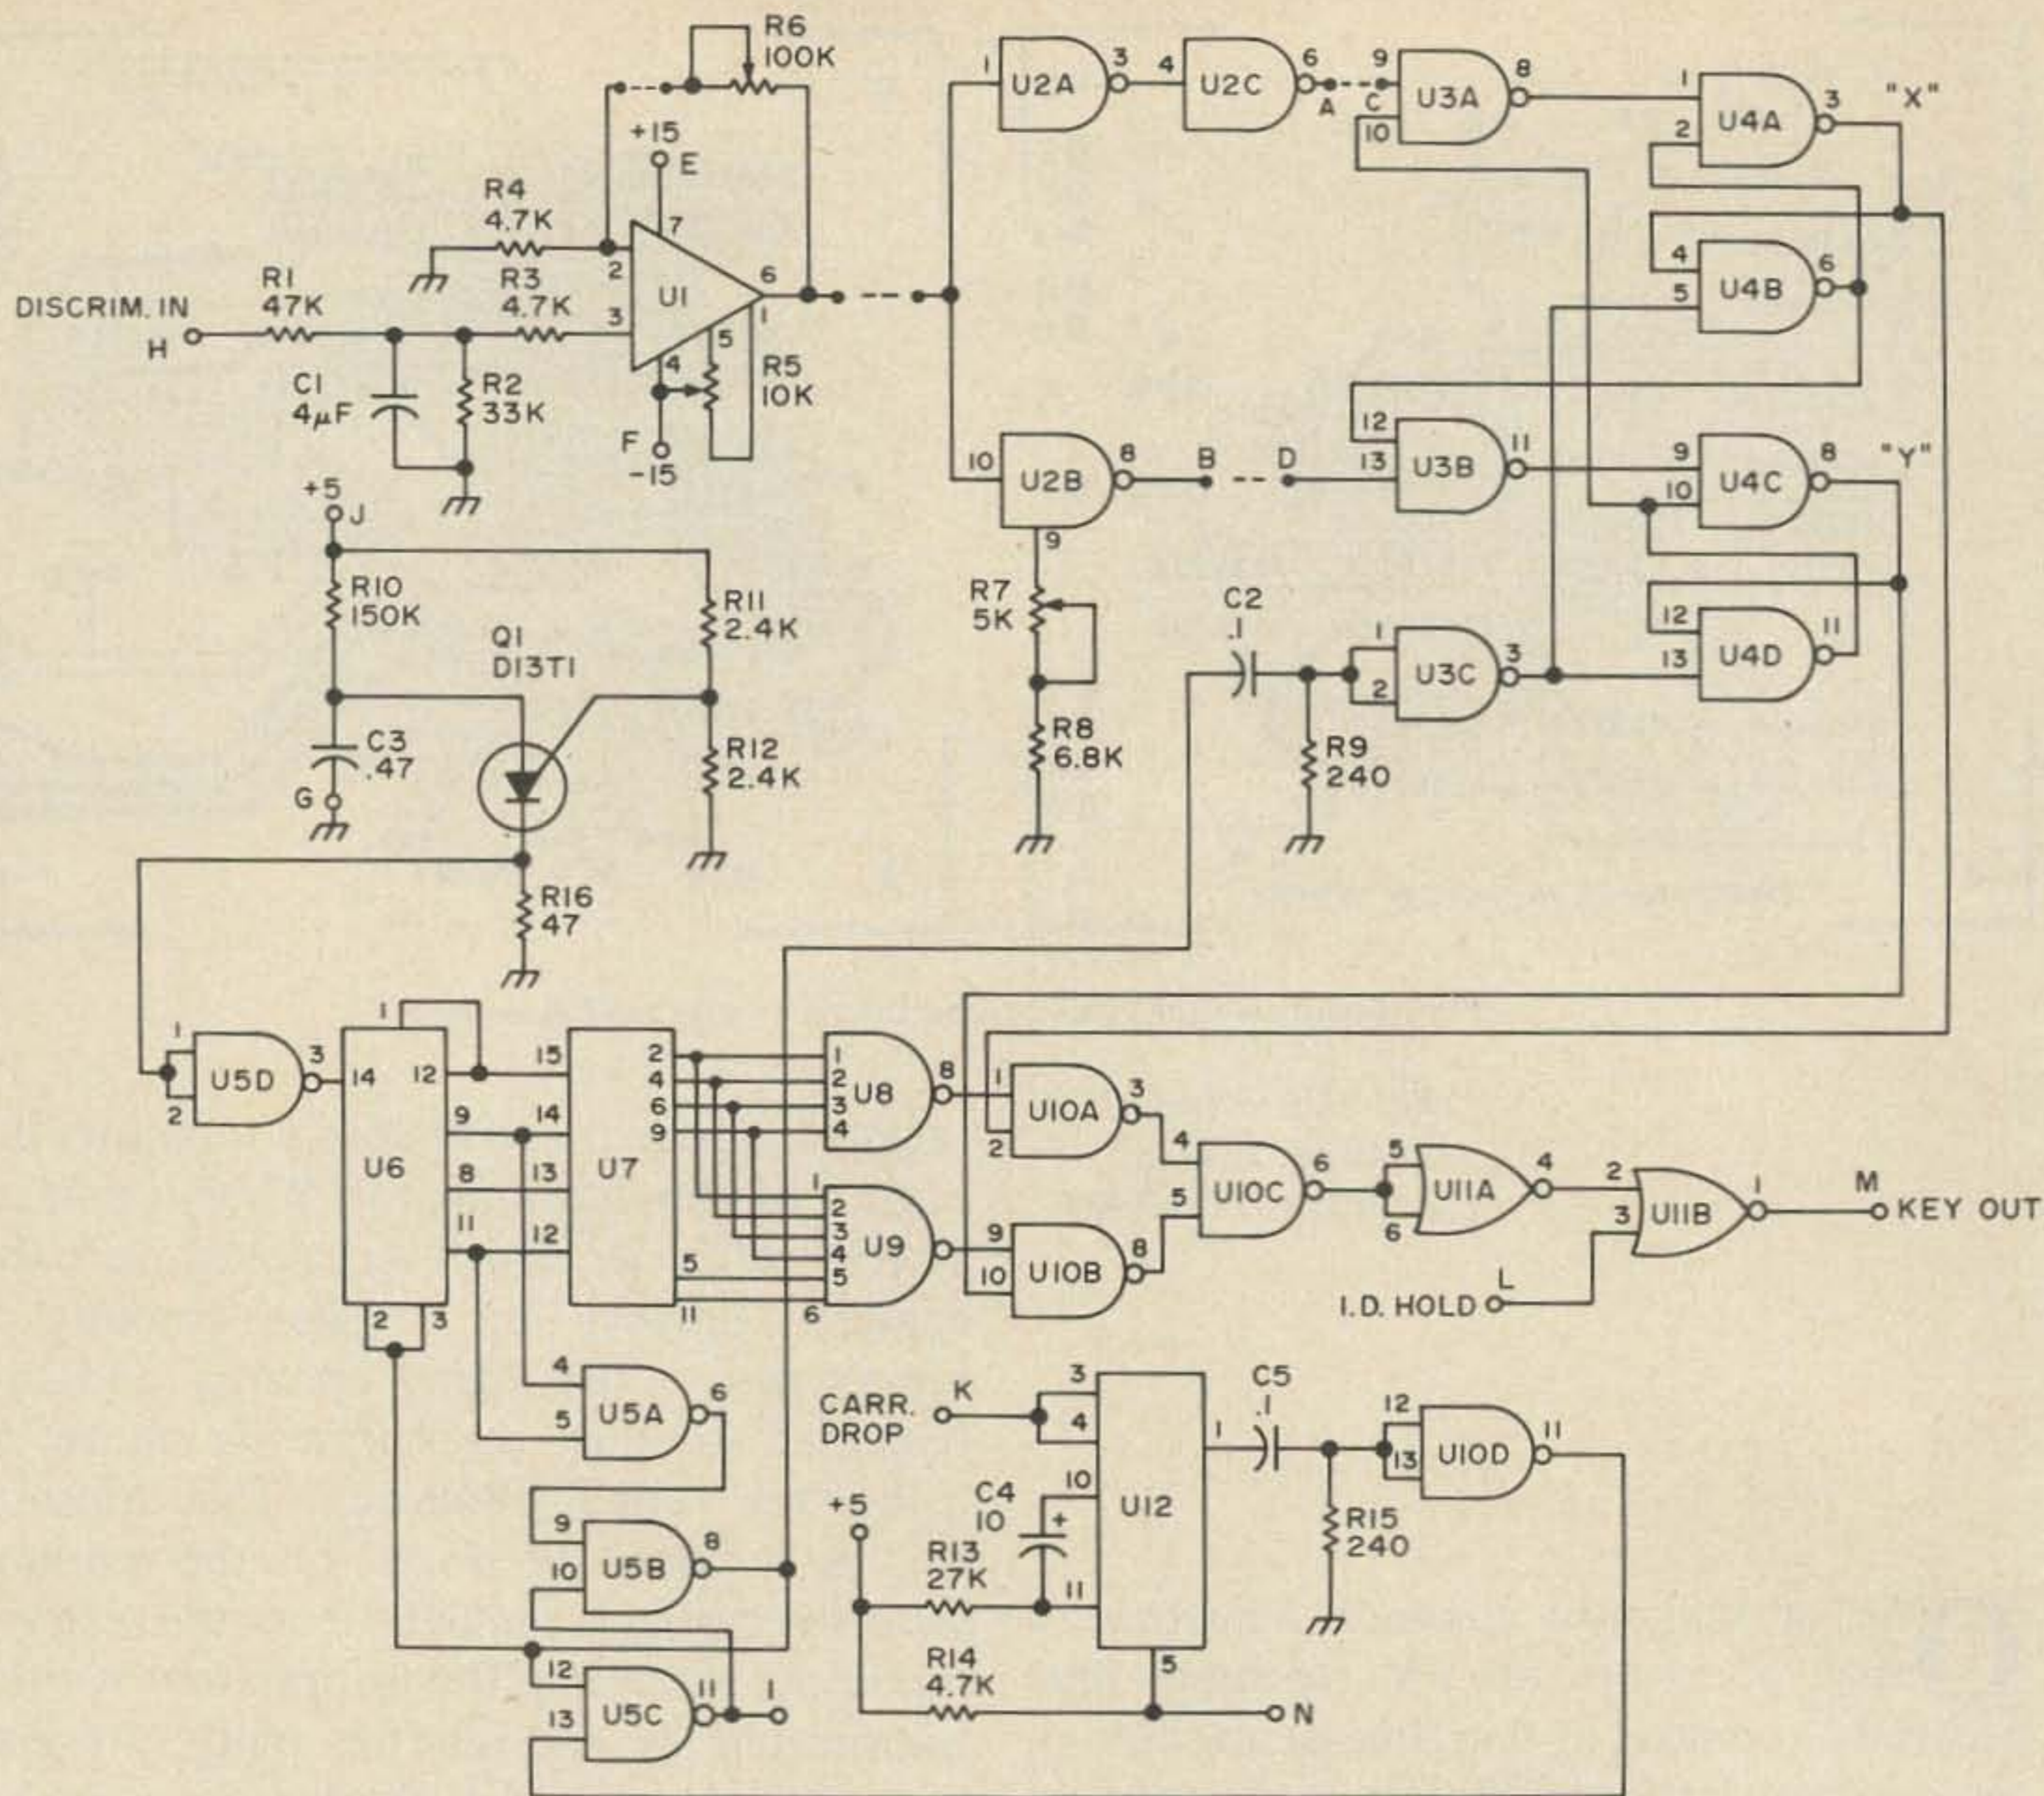

Fig. 1. Schematic of the high-low frequency monitor.
"carrier drop" signal which falls from a high ( $>2.4$  v.) to a low ( $<0.8$  v.) whenever a carrier is removed from the receiver input, and (2) a so-called "I.D. hold" signal which remains high during the I.D. Referring to Fig. 1, operation of the circuit is as follows: The output of the receiver discriminator is connected through R1 and R3 to the non-inverting input of U1, a 5556 op amp. (Note: The point of connection at the receiver is the same one ordinarily used for a zero-center microammeter.) The discriminator output is amplified by U1 and appears at pin 6. This bi-polar (i.e. positive and negative) signal at pin 6 is then presented to U2, pins 1 and 10. U2 is a 1489 which has four identical sections and is specifically designed to accept bi-polar signals and convert them to zero and +5 volt logic levels. Each section can be individually adjusted to
U5 through U12 comprise the readout section of the monitor. Q1, a programmable unijunction, provides the clock signal. The frequency of oscillation of Q1 can be adjusted by selecting the value of R10. The 150K, shown for R10 in Fig. 1, corresponds to a code speed of approximately 20 wpm. Incidentally, if it is convenient to use a freerunning clock signal from existing I.D. circuitry, Q1 and its associated components may be omitted and the external clock signal connected to pins 1 and 2 of U5D. Assuming, for the moment, that pins 2 and 3 of U6 are low, U6, a four bit binary counter (7493), will be clocked by the oscillator (via U5D) and U6's binary output (pins 12, 9, 8 and 11) will address the inputs of U7, a one of ten decoder (7442). The outputs of U7 are connected to U8 and U9 in such a manner as to program (in Morse code) an H from U8 and an L from U9. The two outputs of U8 and U9 are gated through U10A and U10B, respectively. Point X, as previously discussed, when high, indicates a signal on the high side of the window. Point X connected to pin 2 of U10A, therefore, will permit the H to pass when it is high and Point Y, connected to pin 10 of U10B, will permit the L to pass when it is high. Whichever signal is permitted to pass is then routed through U10C, U11A and U11B. The purpose of U11B is to permit inhibiting any
Point I in Fig. 1 is provided for those repeaters which do not employ any transmitter drop-out delay and can be used with existing control circuitry to ensure that the transmitter is held on for the duration of the readout sequence (approximately 1 second).
Disconnect the variable voltage source from pins 1 and 10 of U2 and reconnect the jumper between pin 6 of U1 and pins 1 and 10 of U2. Set R6 to about mid-range and verify that there is a jumper between pin 2 of U1 and the end of R6 as shown in Fig. 1. Connect the  $\pm 15V$  supply to the frequency monitor, ground point H and monitor pin 6 of U1 with a voltmeter. Adjust R5 for zero (off-set) voltage indication of the voltmeter. This adjustment, like the previous one, is made once and then left alone. Remove the ground from point H, connect the 5V and the  $\pm 15V$  supplies to the monitor and attach the variable voltage source to point H. For this step the voltage applied to point H should be variable in the range of 0 to  $\pm 0.2V$ . While varying the voltage to point H, monitor the voltage at pin 6 of U1. Pin 6 should follow the polarity of the input
The connections between U2 and U3 shown in Fig. 1 (i.e. A to C and B to D) are to be used if a positive output from the receiver discriminator indicates a signal on the high frequency side of center frequency. If, however, the discriminator produces a negative output for a high frequency signal, these connections will have to be transposed so that A connects to D and B connects to C. (The PC board available provides convenient pads to facilitate these changes).